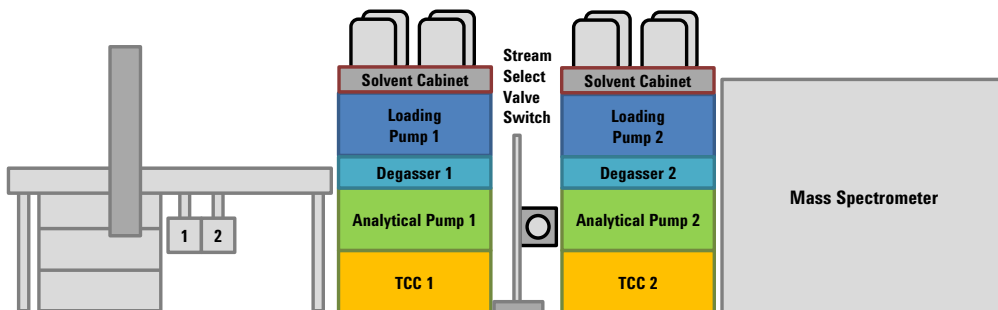
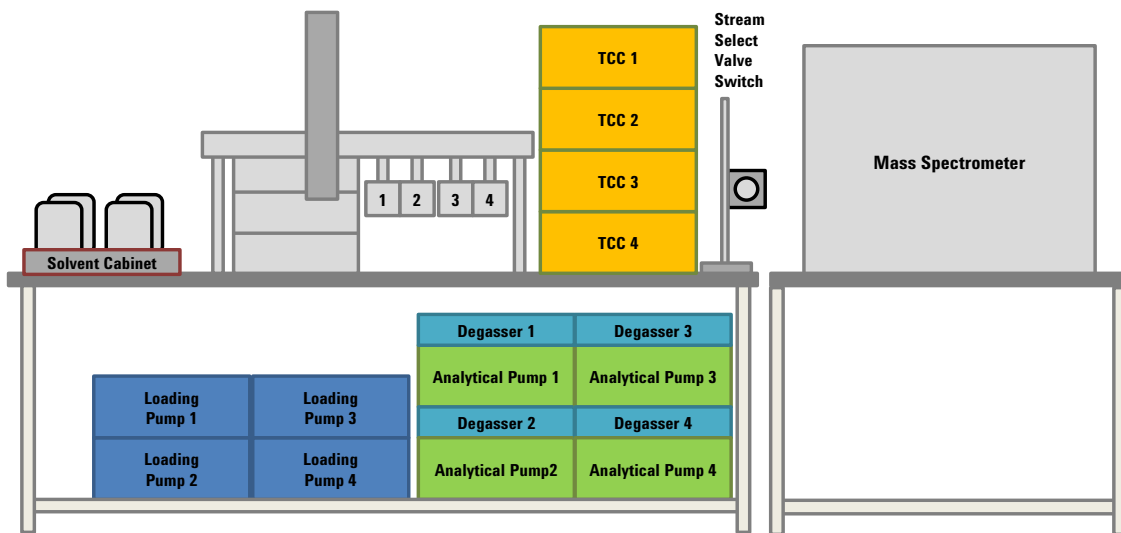

Figure 5 Recommended layout for 2-stream systems *with* online sample cleanup
Figure 6 Recommended layout for 3-stream and 4-stream systems *with* online sample cleanup
- a Follow the layout shown in Figure 5 (2-stream) or Figure 6 (3-stream or 4-stream):